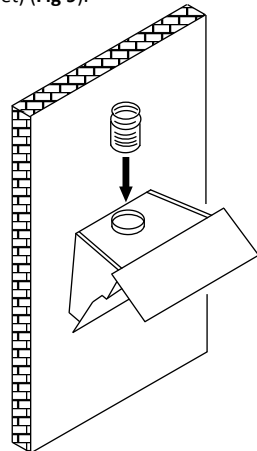

Fig 9
7. Attach ducting to top of Vivaldi (if not using back outlet) (Fig 9).